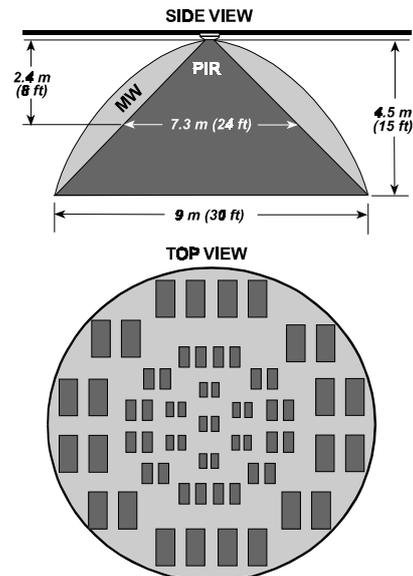

Figure 1. DUO 240 Coverage Pattern
**Detection Pattern:** A virtually conical pattern of maximum 9 m (30 ft) diameter, when installed on a 4.5 m (15 ft) ceiling (Fig. 1).